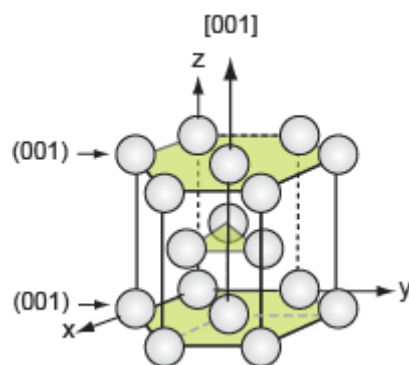

Figure C45.
E33. (a) The cleavage plane is shaded on Figure C45.
(c) The (001) planes and the [001] direction are shown on Figure C45.